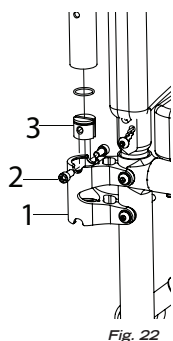

Fig. 22
- Pull the armrest out of the receiver (1) (Fig. 22).